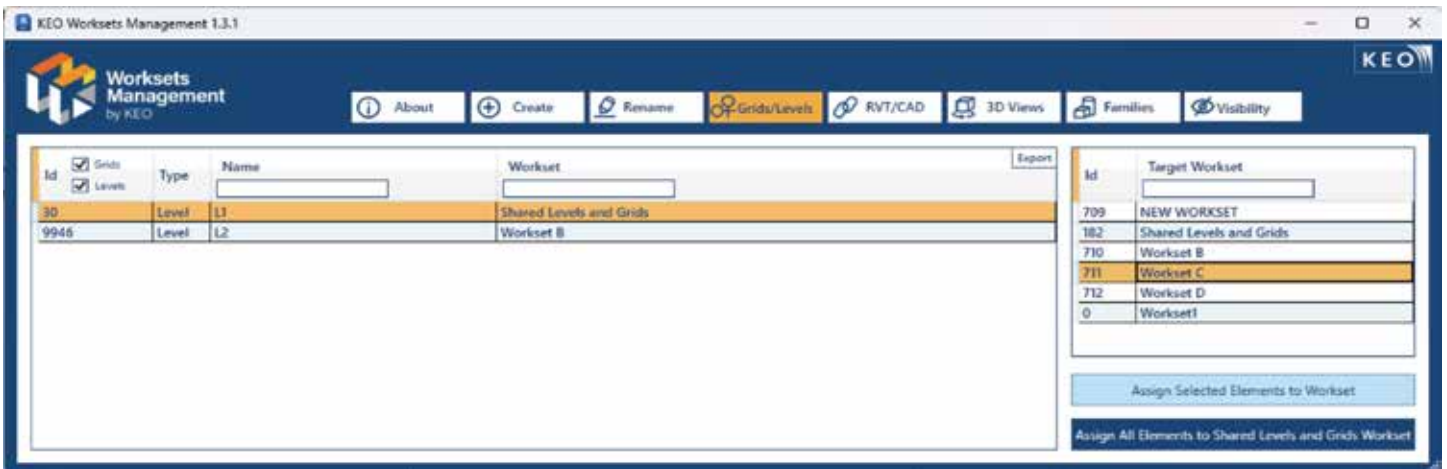

Figure 27
**Rename** - Renaming Worksets is quick and easy - all you need to do is type the desired name and click the Rename Worksets button! Figure 27.